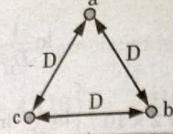

Fig. 4.7.1. Symmetrical 3φ line.
- As shown in Fig. 4.7.1, in such arrangement conductors are situated at the corners of an equilateral triangle.